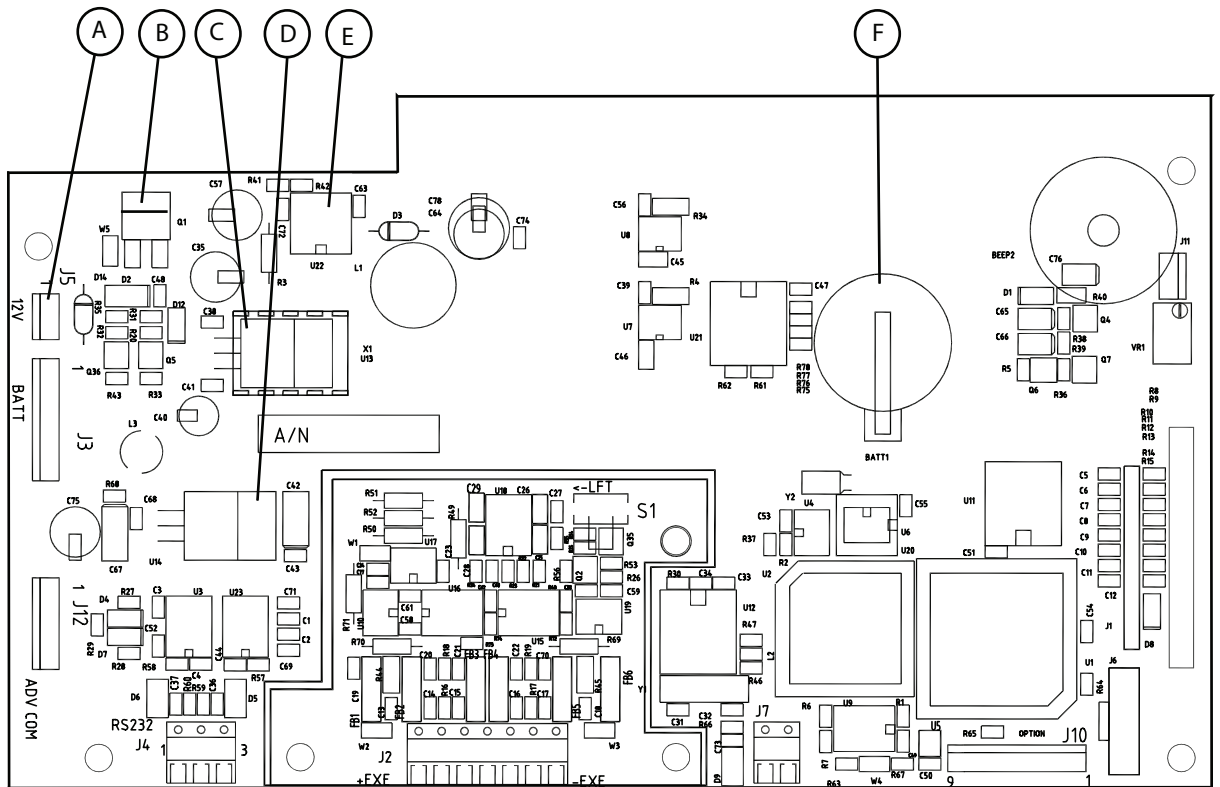

Figure 3-3. Component Layout Diagram.
- Using a DVM, measure the power supply voltage across pins 1 and 3 of J5, location A in Figure 3-3, it should be 12 volts dc, $\pm 0.24V$ dc. This is the power source for the Main PC board and is regulated. If the voltage is low or is not present, refer to section 3.3 and test the Power Supply Board. If the Power Supply board is defective, refer to section 4.4 and replace the board and continue with this procedure. If the board is OK, continue with this procedure.
3. Disconnect the Load Cell cable from connector J2 on the Main PC Board. Refer to Figure 3-3 for connector location.